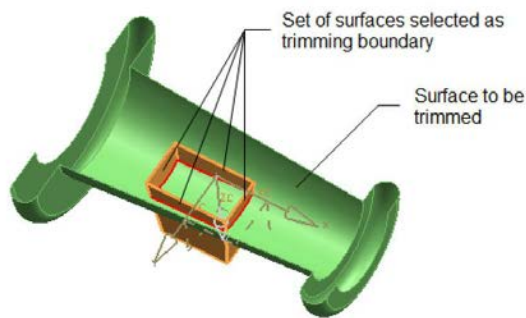

Figure 10-101 The surface to be trimmed and the trimming surfaces
- Trim the base surface, refer to Figures 10-101 and 10-102.
2. Select the sheet to be trimmed, as shown in Figure 10-101. Make sure that you select the sheet by using the selection points shown in this figure. After selecting the target sheet body, press the middle mouse button; you are prompted to select the boundary objects.
3. Select the trimming surfaces, as shown in Figure 10-101. Make sure that you select the surfaces by using the points shown in this figure.